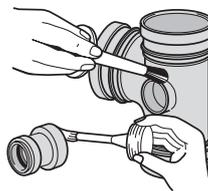

Fig.24b Applying solvent cement
Step 5 – Apply **9100 Liquid Weld** (solvent cement) to all mating surfaces using a clean brush (Fig.24b)